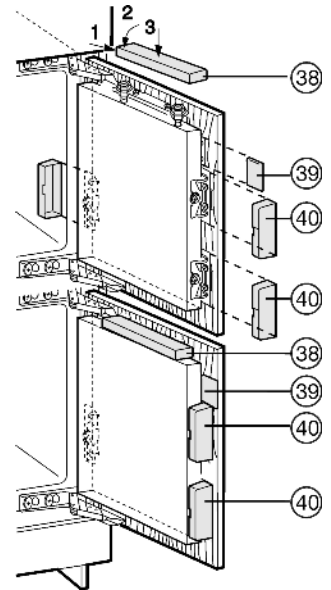

Fig. 28
- ▶ Position the upper covers Fig. 28 (38) and snap into place.
- ▶ Place the side covers Fig. 28 (39) in position, slide to the limit and then press until they snap audibly into place.
- ▶ Attach the covers Fig. 28 (40) to the side and then draw them forward with a screwdriver, so that they snap properly into place.